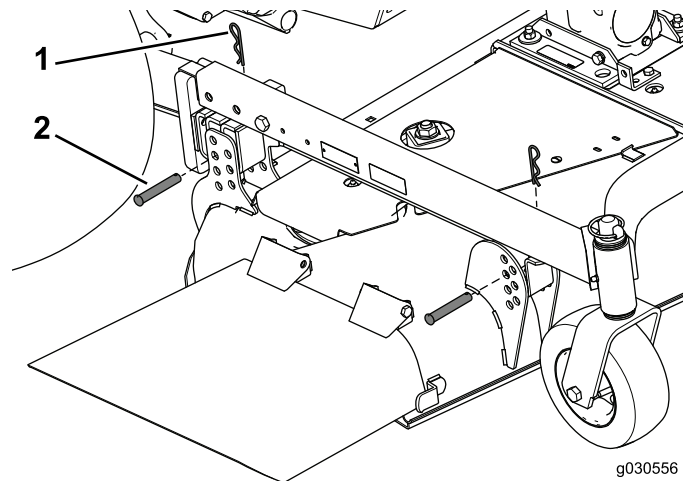

Figure 33
4. Remove and set aside the clevis and hairpins that secure the mower deck to the carrier frame (Figure 33).